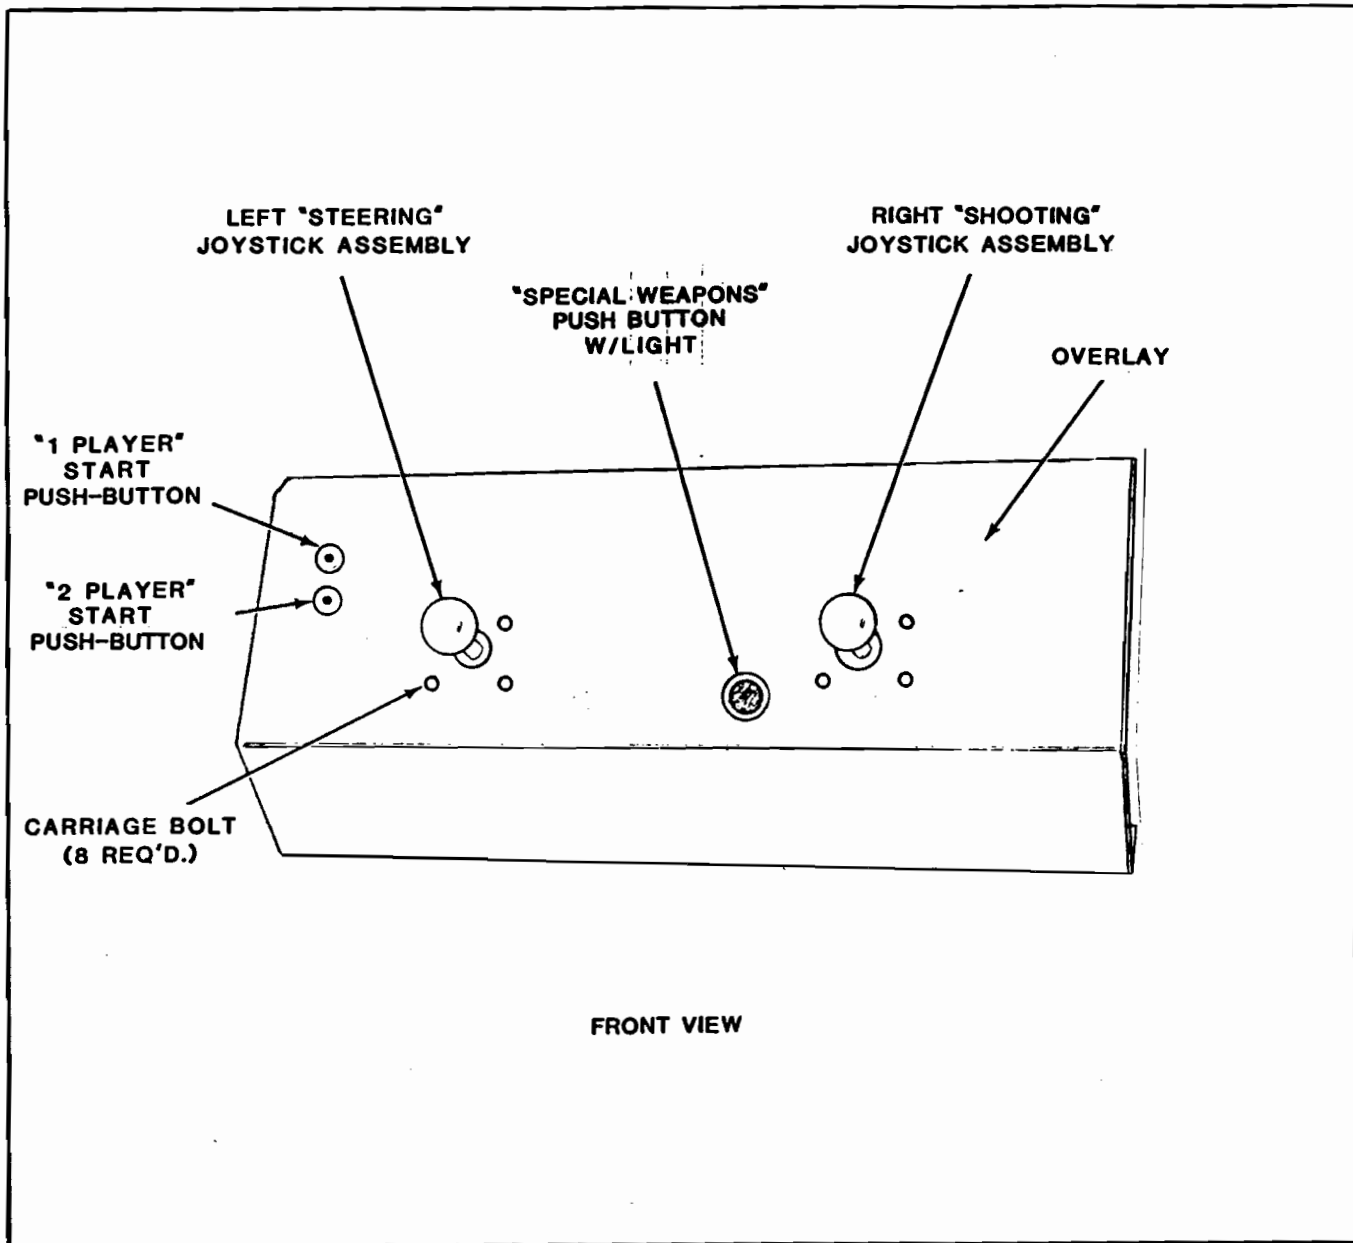

FIGURE 1. SUGGESTED MOUNTING OF NEW CONTROLS ON EXISTING CONTROL PANEL
NOTE: Follow the steps below, the illustrations given in Figures 1, 2 & 3 (on pages 10, 11 & 12), the assembly illustrations (on pages 16 & 18), the Wiring Diagrams (on page 19).
- E. Install new controls to your newly modified Control Panel as shown in Figure 1 & 2. Mount controls using eight (8) carriage bolts, eight (8) hex head nuts and two (2) Pal nuts from your kit.